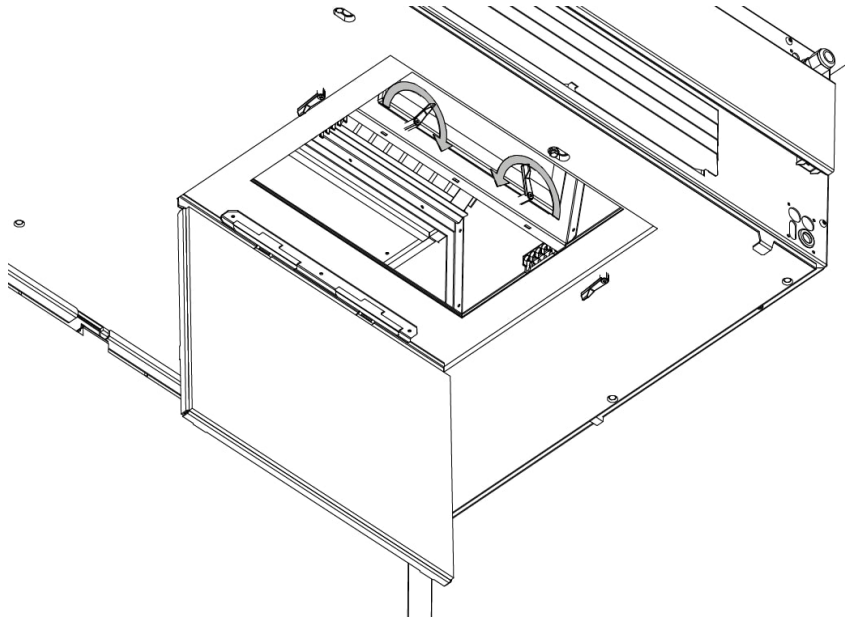

Figure 25: Open the hinges holding the coarse filter
3. Open the hinges that keep the coarse filter in place, see Figure 25 below.